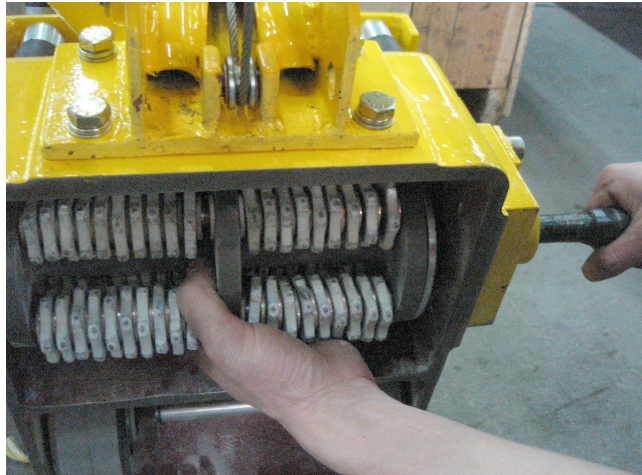

Figure 5
3. Hold the drum and remove the arbor shaft to remove the drum assembly. (See Figure 5)